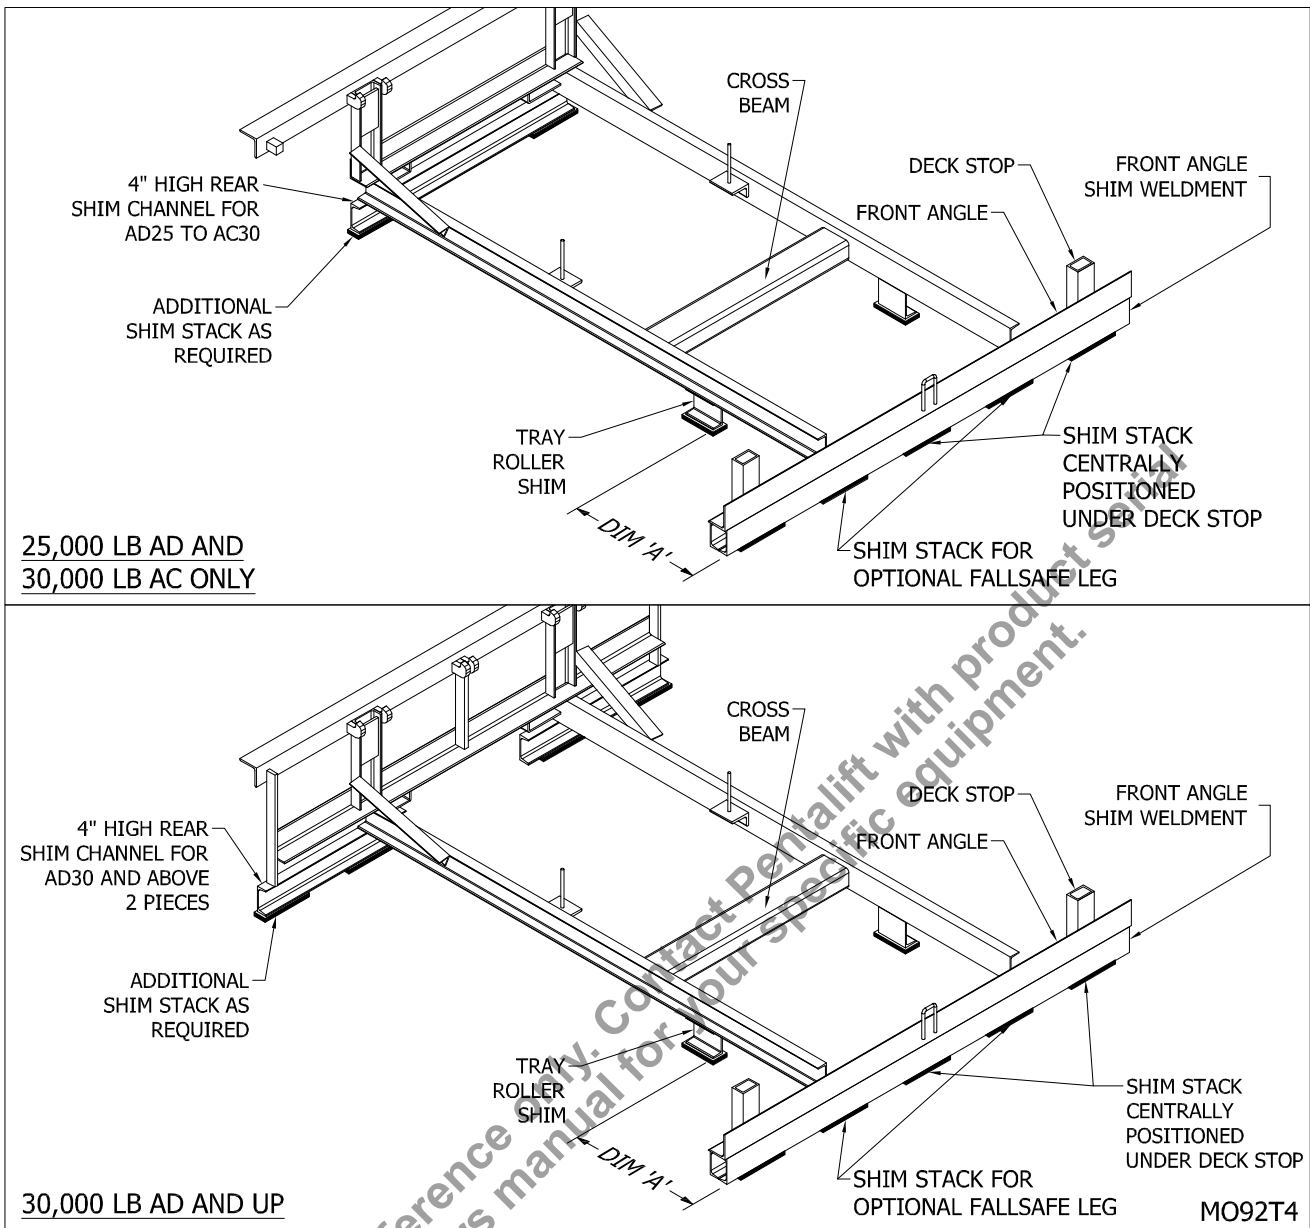
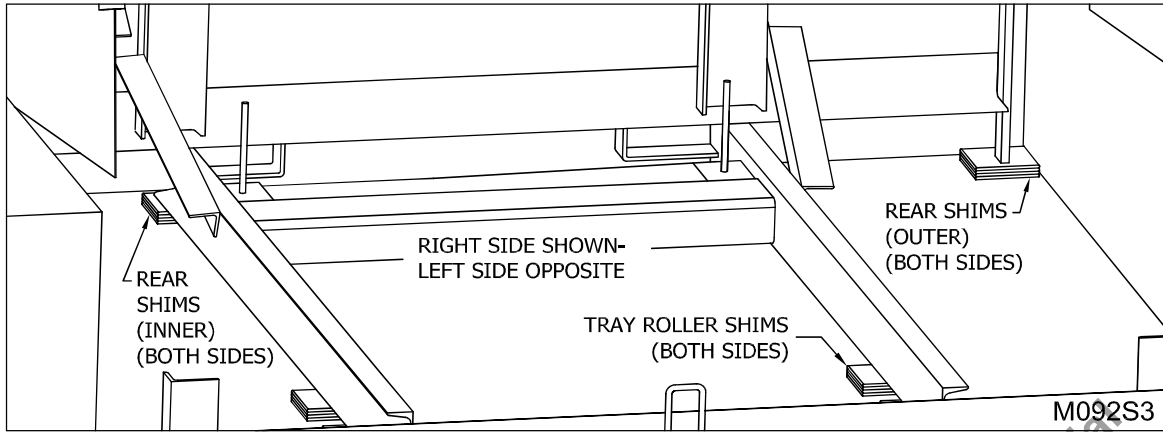

Figure 24: Installation Shims (4" Shim Kit Channel Shim Shown)
Figure 24a: Rear & Roller Shims (4" Shim Kit Shown)
- Place the front-angle shim assembly into the pit at the front edge, centered across the dock leveler and pit width. When the front-angle shim is constructed of C-channel (3" & 4" shim kits) ensure the short pieces (12" long) on each end are installed toward the inside of the pit. See "Figure 24: Installation Shims (4" Shim Kit Channel Shim Shown)" on page 22.
8. ___ Lower the dock leveler until the front angle of the dock leveler rests on the front-angle shim. Ensure the front-angle shim assembly is flush with the front angle of the dock leveler frame. “Figure 24: Installation Shims (4” Shim Kit Channel Shim Shown)” on page 22.
14. ___ Add shims (3" x 4" x required thickness) to increase the front height of the dock until the deck plate is flush with the dock height (or at desired final level). Ensure shims are located beneath the front-angle shim at the location of the two deck stops as well as at the center of the front angle. (See "Figure 24: Installation Shims (4" Shim Kit Channel Shim Shown)" on page 22) All shims are to be minimum ASTM A-36 or CSA G40.21 material.
20. ___ Place additional shimstack under the frame beam to support air bag roller tray (see "Figure 24: Installation Shims (4" Shim Kit Channel Shim Shown)" on page 22).
Shimming is required underneath the frame beam, and positioned under the air bag tray's rollers. The location of the tray roller shim is represented as DIM 'A' as shown in "Figure 24: Installation Shims (4" Shim Kit Channel Shim Shown)" on page 22 and "Figure 24a: Rear & Roller Shims (4" Shim Kit Shown)" on page 23. This dimension is measured from the front edge of the front angle to the front edge of the shim. For 8 ft. long models DIM 'A' is to be 26 7/8" and for 6 ft. long models DIM 'A' is to be 3 3/16".